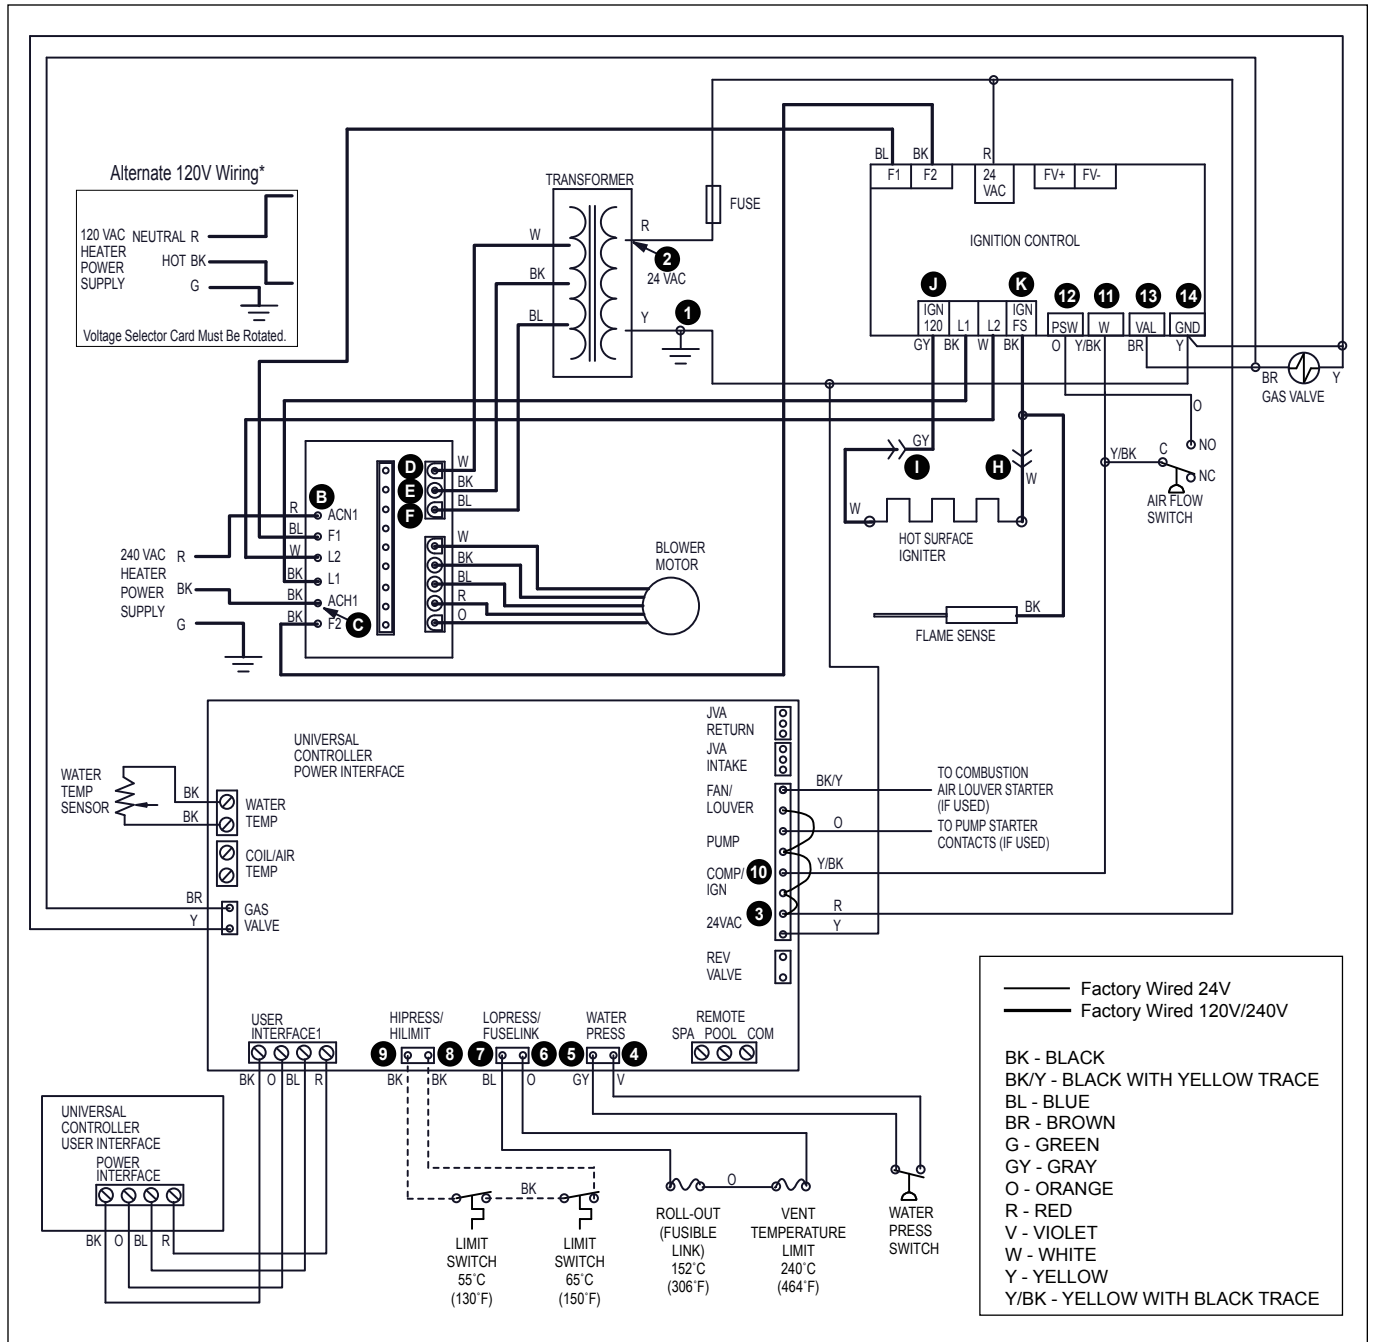

Figure 39. Test Point Identification Diagram
**These procedures require a Volt-Ohm meter with a minimum 0-250VAC voltage range, and 1-1000 Ohm resistance range. Figure 39 shows the power and control circuits and where to take measurements. Location numbers in circles have been added, and will be referenced in the following sections.**
The electrical components of the LXi pool heaters are designed to operate with supply voltage ranging from 102V to 132V at 60 Hz if connected to a nominal 120 Volt power supply, or 204V to 264V at 60 Hz if connected to a nominal 240 Volt power supply. Measure supply voltage at the power supply leads where they enter the heater (identified as points A, B and C on the wiring diagram in Figure 39). Use the voltages in Table 13 to verify that the correct voltage is supplied to the heater.
This can be done by measuring the voltage between the wires of the three-pin connector on the power supply circuit board. These points are designated as test points D, E, and F on Figure 39. The voltages measured between any two (2) of these three (3) points will be determined by the voltage supplied to the transformer. See Table 14 for expected voltages.
Troubleshooting is done by probing for voltage between the common and various points in the circuit to determine which component is preventing operation. Check points are indicated on Figure 39. The black lead of the meter should be attached to the common tap on the secondary side of the transformer and may be left there throughout most of the procedure.
To check the fusible link/air louver/field interlock circuit, place the red lead at test point 6, see Figure 39. If 20-28 Volts AC nominal is not measured at this point, either the controller or the two-pin wire harness is faulty, or the water pressure switch is open.
Since the limit switches are not easily accessible, the voltage can be checked at the two (2) legs of the circuit at the controller. See test points 8 and 9 in Figure 39.